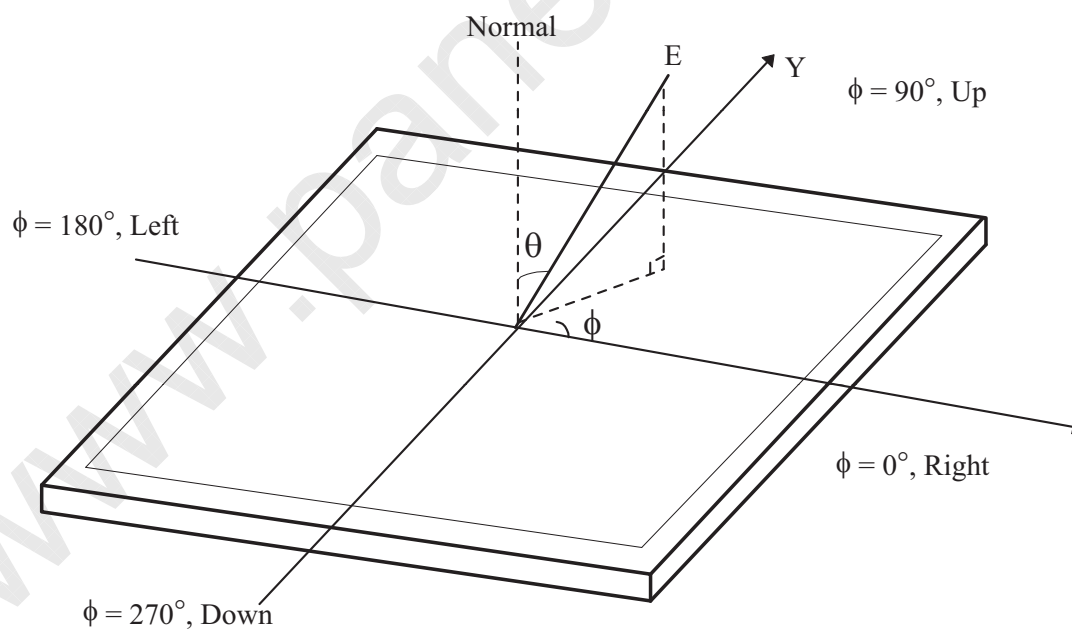

FIG. 3 Viewing Angle
4. Viewing angle is the angle at which the contrast ratio is greater than 10. The angles are determined for the horizontal or x axis and the vertical or y axis with respect to the z axis which is normal to the LCD module surface. For more information, see the FIG. 3.